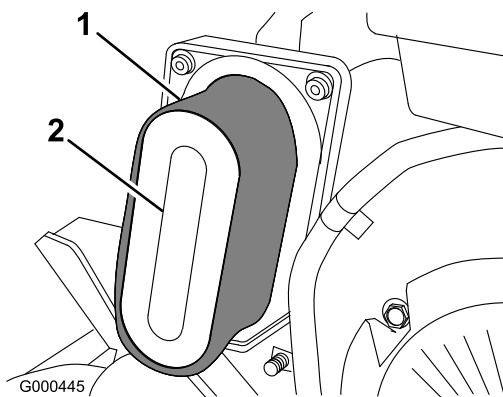

Figure 23
3. If foam element is dirty, remove it from paper element (Figure 23). Clean thoroughly.